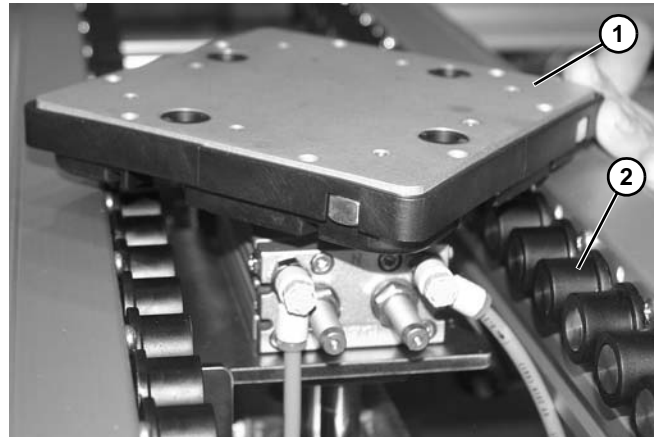

Figure 55
1. Adjust stroke so that pallet (**Figure 55, item 1**) clears rollers (**Figure 55, item 2**) and remaining conveyor components.